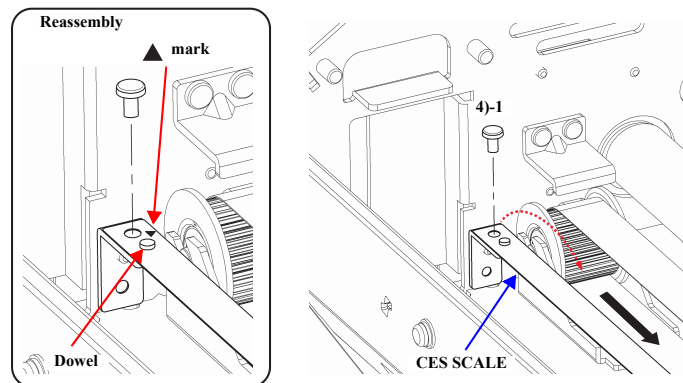

Figure 4-38. CES SCALE Removal (2)
- Attach the left end of the CES SCALE to the inside of the SIDE FRAME, LEFT with the ▲ mark facing the interior of the printer, as shown in Figure 4-38.